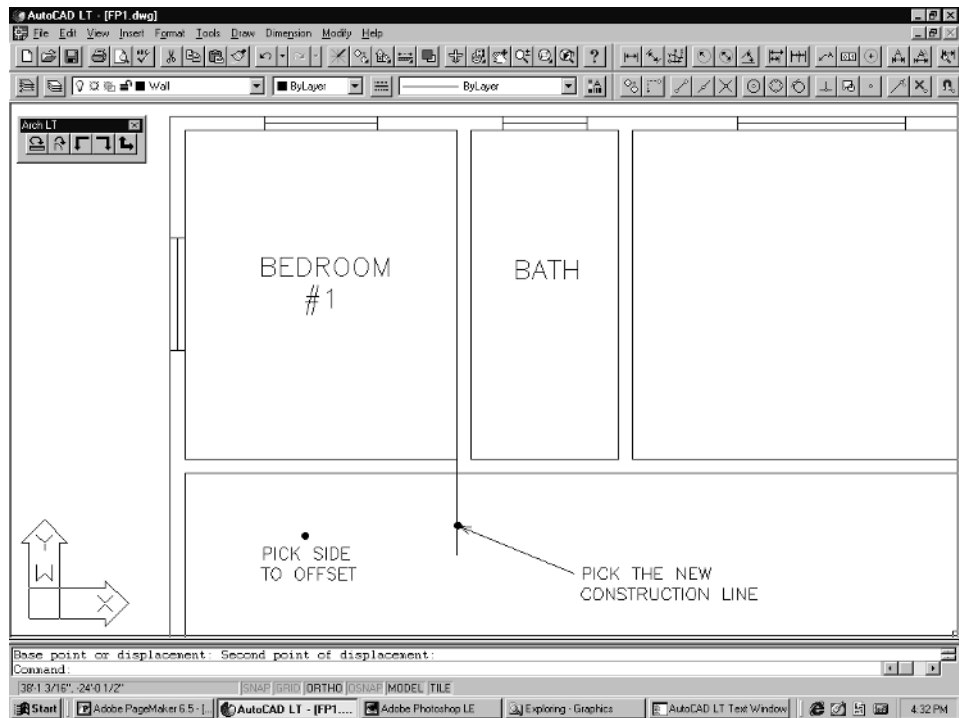

Figure 2-36
2. Next, offset this new line 4" to the left. This creates the first door jamb line. To do this, pick the **Offset** command from the Modify pull-down menu. The *Offset distance or Through <Through>* prompt will appear. Type **4** and **Enter**. At the *Select object to offset* prompt, pick the construction line with your left mouse button. Finally, at the *Side to offset?* prompt, pick to the left side, as shown in Figure 2-36. The line will automatically be drawn. Hit the **Esc** key or **Enter** key to quit the Offset command.